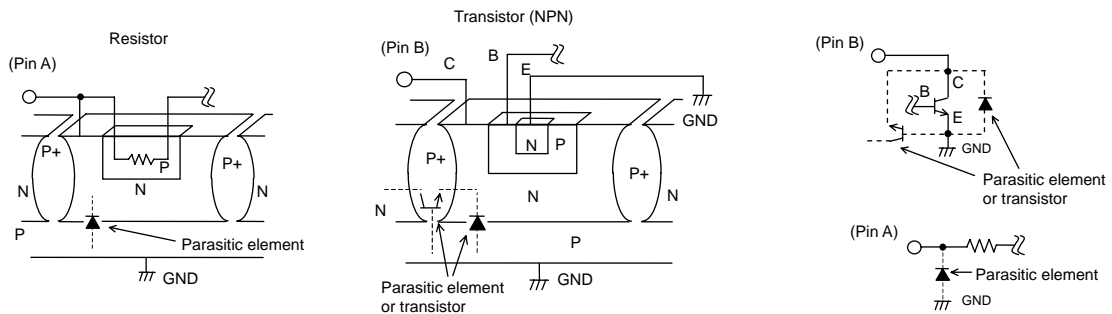

Fig.36 Example of the basic structure of a bipolar IC
- 2) This IC is bipolar IC that has a P-board (substrate) and P+ isolation layer between each device, as shown in Fig.36. A P-N junction is formed between this P-layer and the N-layer of each device, and the P-N junction operates as a parasitic diode when the electric potential relationship is  $GND > Pin A$ ,  $GND > Pin B$ , while it operates as a parasitic transistor when the electric potential relationship is  $Pin B > GND > Pin A$ . Parasitic devices are structurally inevitable in the IC. The operation of parasitic devices induces mutual interference between circuits, causing malfunctions and eventually the destruction of the IC. It is necessary to be careful not to use the IC in ways that would cause parasitic elements to operate. For example, applying a voltage that is lower than the GND (P-board) to the input terminal.